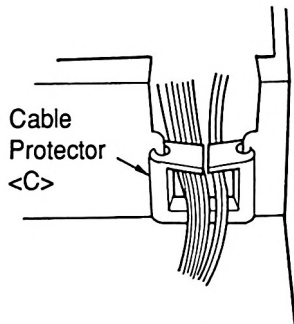

Figure 8
- (11) Remove the cable protector <C> from the top shield plate while lifting up the rear end of the top case slightly as shown in Figure 8.